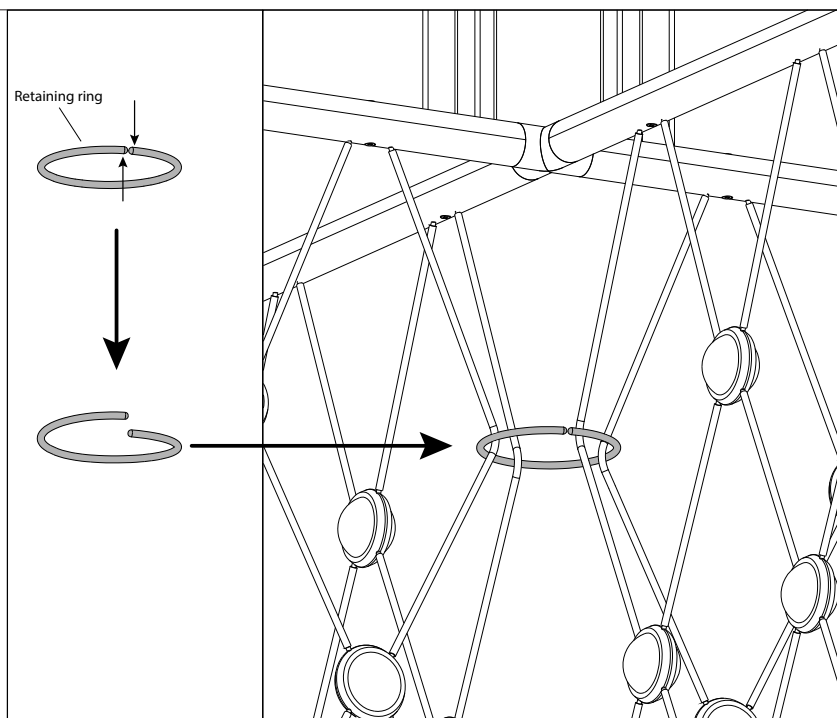
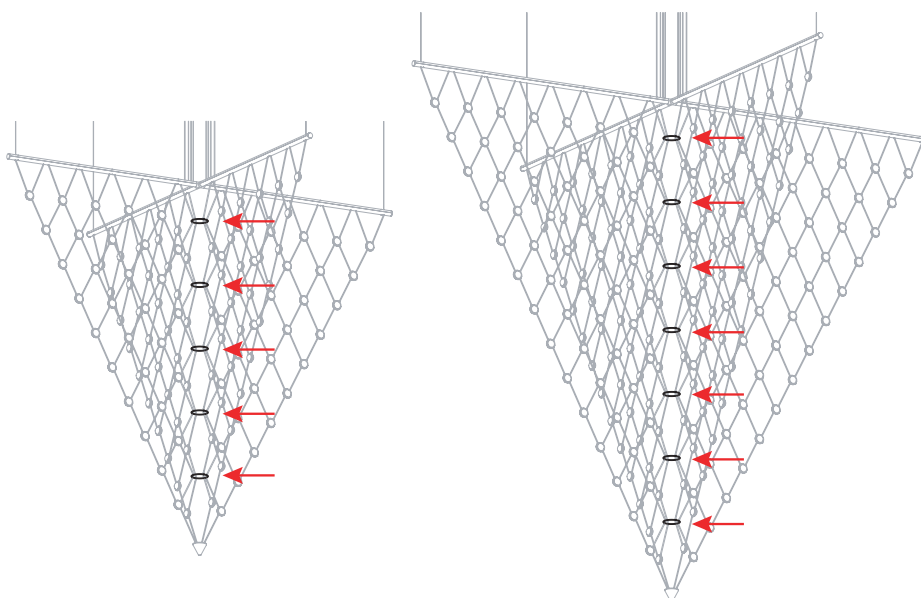

Fig. 4: Ring installation
Fig. 5: Ring Positions
9. Following Fig. 4, create a gap in the retaining rings by pressing ends in opposite directions, then pass the gap over each of the luminaire triangle connection points (Fig. 5).
5. Twist together the outer braided conductor to form the negative wire of the fixture, then strip 5/8" off the end of the inner stranded conductor to form the positive wire of the fixture (Fig. 4).